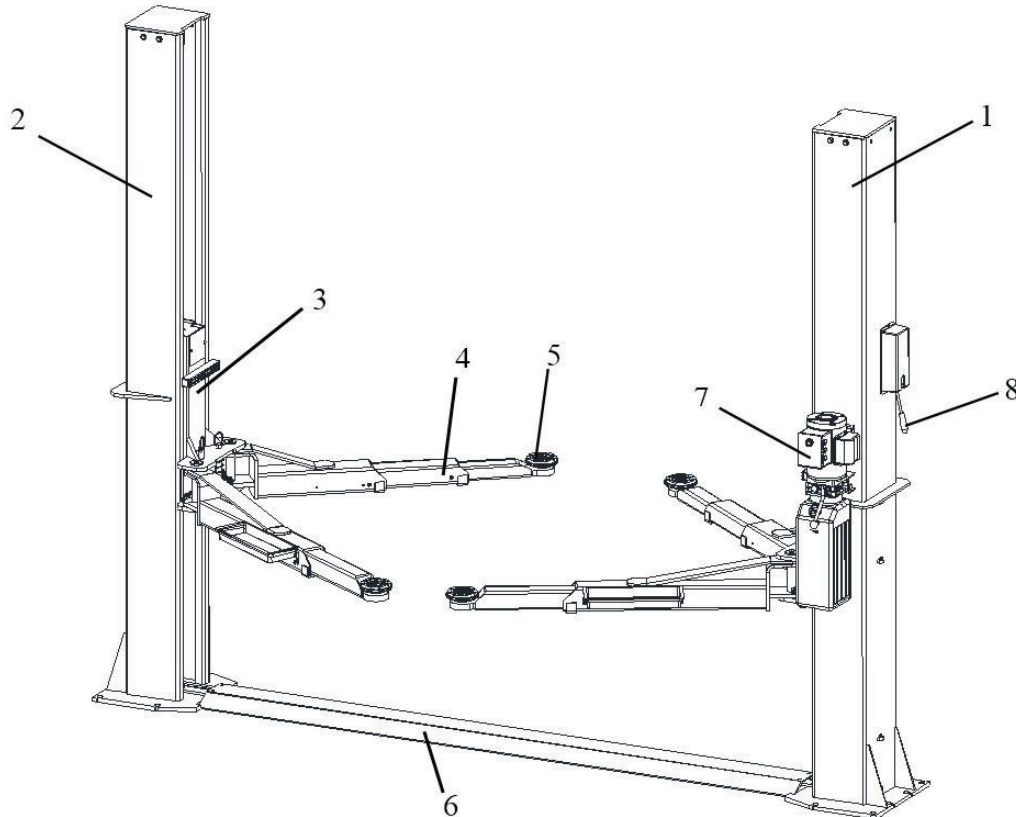

Figure 2 – Lift
This chapter describes the lift's principal elements, allowing the user to be familiar with the machine. As shown in figure 2, the lift is composed of two columns: power-side column (1) and off-side column (2), each equipped with a carriage (3) and a pair of lifting arms (4) with the adaptor (5) anchored to the ground by means of base plates of columns. The base plate (6) is used to protect routed lines between columns. Raising motion is carried out by pushing the lifting button on a power unit (7) which delivers the hydraulic fluid to cylinders inside the columns to act on the chain system to raise the lift. Lowering the vehicle by pushing down the lowering handle on the power unit while holding down the safety lock handle (8). The synchronization is controlled by the equalizer cables. The arm safety can be engaged automatically when the lift is raised.